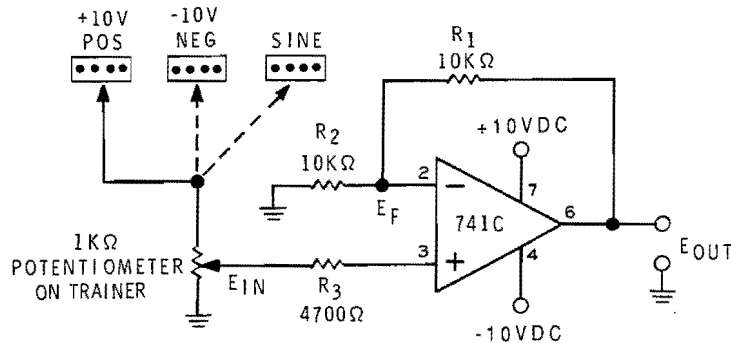

Figure 3-59
32. Construct the circuit shown in Figure 3-59. Initially, connect the 1 kilohm potentiometer to the "+" power supply. This connection will be changed in a later step. Turn on Trainer.